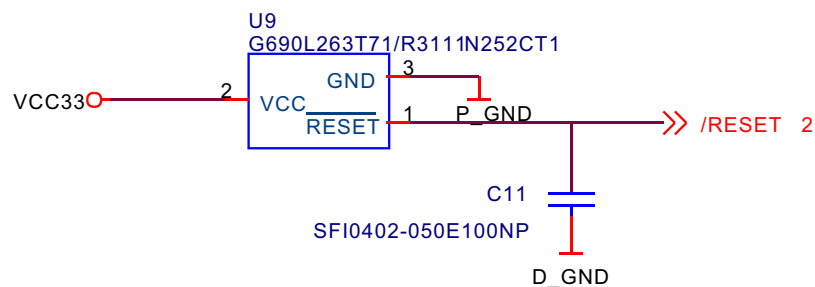

Figure 3.2.7.1 Reset circuit schematic diagram
1. Reset circuit is to provide power on reset level for PN0101. Reset circuit is shown in the figure 3.2.7.1: